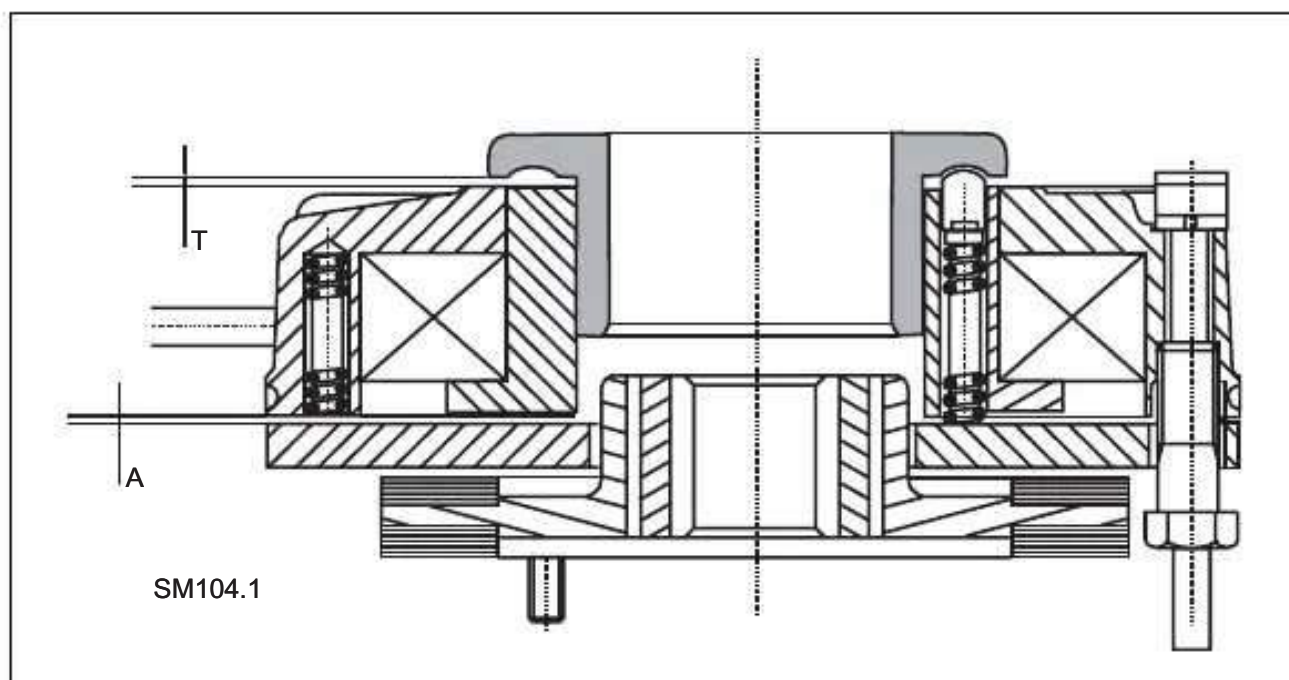

**Figure 11.1** Electric brake
2. Check the gap, see figure 11.1, between the magnetic part and the plate (the A dimension should be: A = 0.2 mm)
2. When refitting the magnetic part adjust the T dimension to the same dimension as before by means of a hook spanner, see figure 11.1.